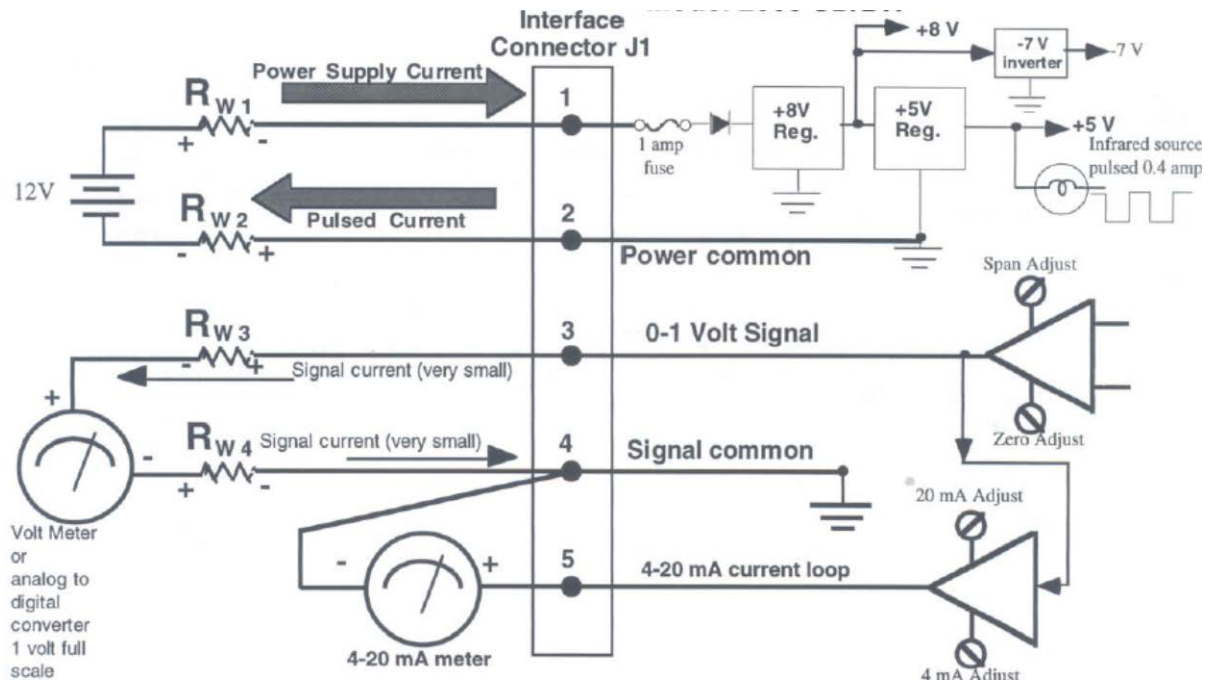

FIGURE 4
1. How to avoid Ground Loops: As seen in figure 4, you should keep the power supply circuit and the signal circuits separated. Even though the Power common and the Signal common are tied together on our printed circuit board, you must run separate wires for each one and make sure that the Power common wire is a large wire gauge and as short as possible. The object is to prevent the pulsed power supply current from getting into the signal path. The power supply current pulses, created by the infrared source turning on and off every 1.008 seconds, will follow the path of least resistance (represented by R_{W1} and R_{W2} , the resistance of the wires). The current flowing through the wire resistance creates a voltage drop (current times resistance) that would appear to be noise if the two loops were connected together. This is classically called a **ground loop** problem.